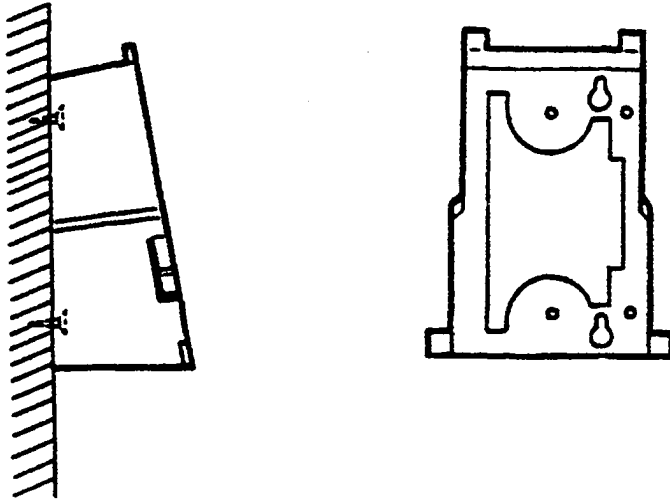

Figure 1-70 Mount WMU-W (BK)/(SW) Unit to the Wall
4. Fasten the optional WMU-W (BK)/(SW) Unit to the wall. Refer to Figure 1-70 - Mount WMU-W (BK)/(SW) Unit to the Wall.